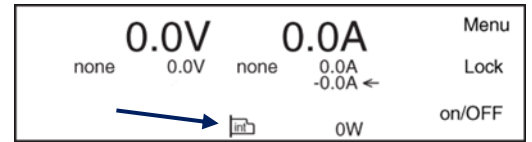

fig 9 - 3
The data provided by 16-bit Format A can be found in figure 9 – 5.
The scaling for the 16-bit format is described in figure 9 – 6. For programming status, please refer to figure 9 – 8.
- All formats use the same Status Registers as shown in figure 9 – 7.